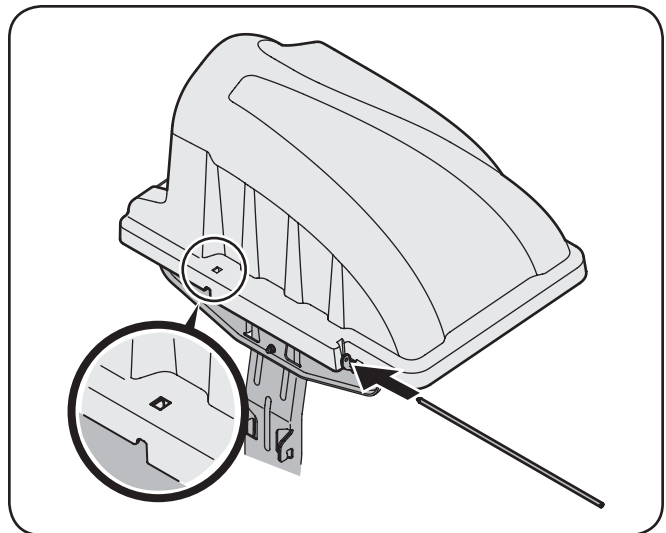
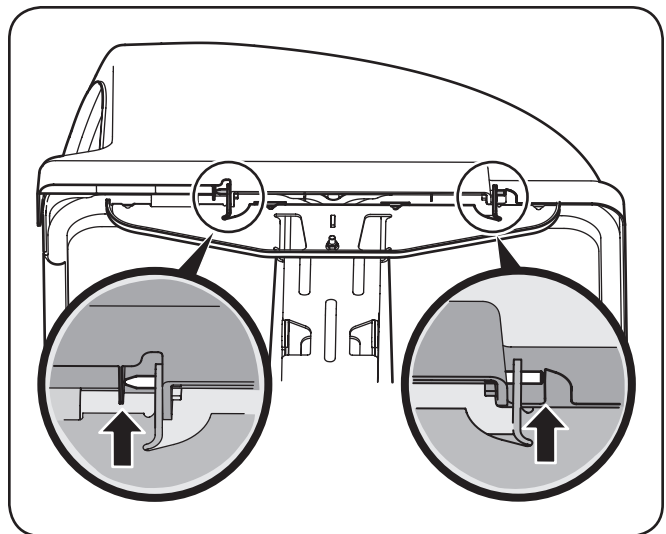

Figure 4-16
Figure 4-17
6. Slide the hinge pin into the hole located on the mounting tab, as in Fig. 4-16. Use the cut-out window (See inset in Fig. 4-16) to line up the hinge pin on the other side and push pin all the way in until it reaches the end-stop. At this point the pin clips into place and is secured by a tab in the bagger cover. See Fig. 4-17.